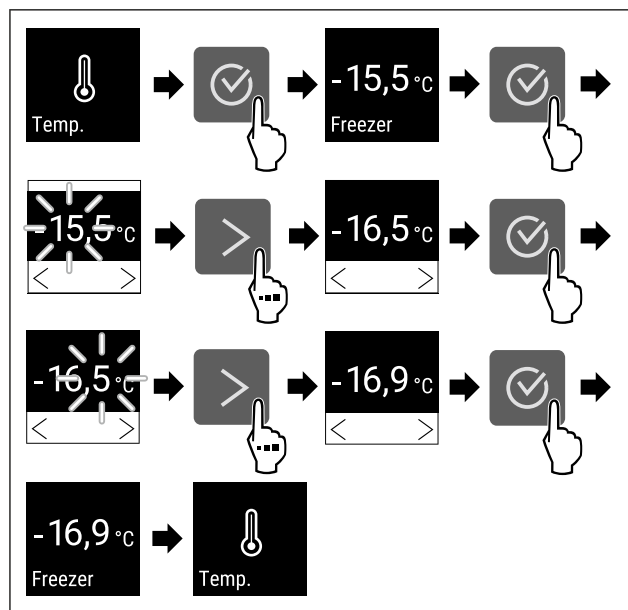

Fig. 65 Changing temperature from -15.5°C to -16.9°C
- Complete steps (see Fig. 65).